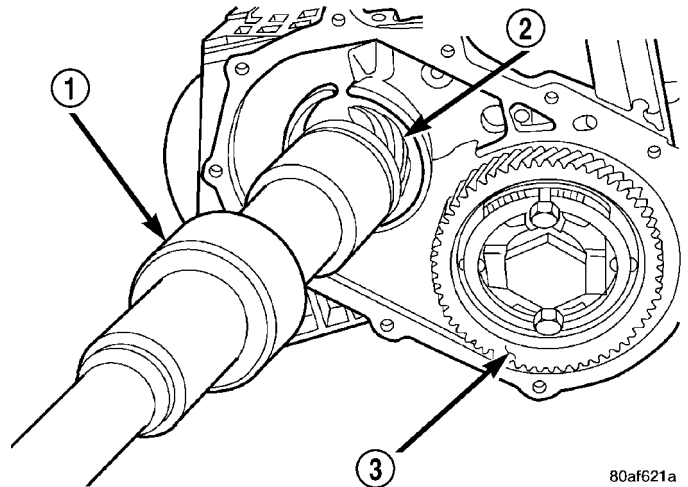

Fig. 60 Remove Transfer Shaft
(44) Using tool 5049A, remove transfer shaft from transaxle (Fig. 60).